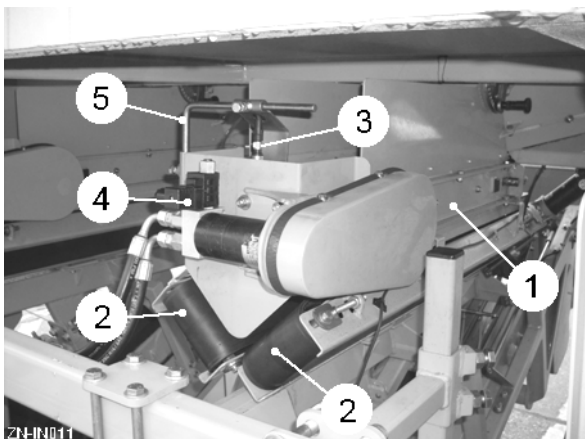
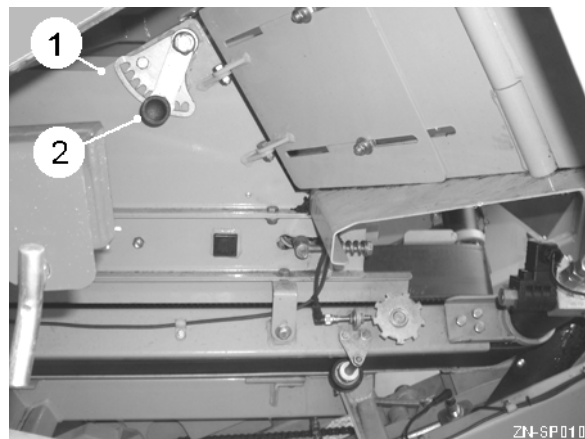
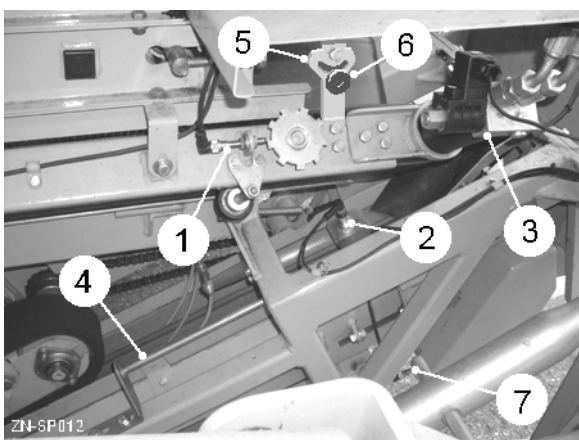
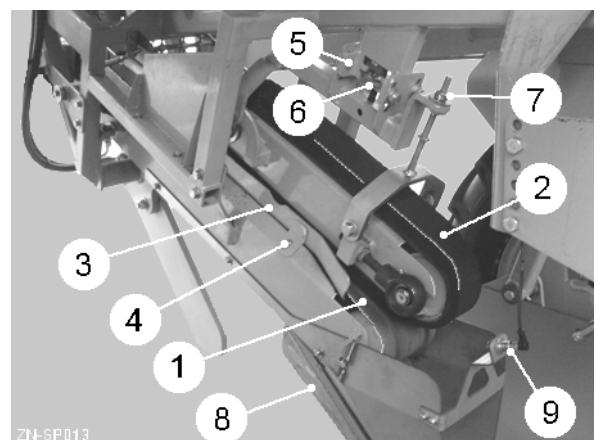

Fig 10
Fig 11
Fig 12
Fig 13
The hopper belt (item 1, fig 10) conveys the seed potatoes from the hopper to the singulating belts (item 2, fig 10). The regulator plate (item 1, fig 11) should be set to keep a single layer of seed covering the hopper belt. Lowering the regulator plate too much could result in 'bridging' and may cause a blockage. To adjust pull out the knob (item 2, fig 11) and relocate the knob plunger into a different slot in the index plate.
The sensor (item 3, fig 10), via the motor ON/OFF valve (item 4, fig 10), controls the amount of seed deposited onto the singulating belts (item 2, fig 10). The amount should be sufficient to create a continuous, single line of potatoes on the singulating belts. To achieve this, raise / lower the sensor arm (item 5, fig 10). Moving the sensor down closer to the singulating belts will cause the hopper belt to stop sooner thus reducing the seed quantity.
The singulating belts (item 2, fig 10) consist of one fast belt and one slow belt arranged in a V-format. The action of the fast and slow belts sorts the potatoes into a continuous, single line before feeding them onto the trough belt. The belts on the RH unit are each fitted with a proximity sensor (item 1, fig 12) which monitors their speed.
The sensor (item 2, fig 12), via the motor ON/OFF valves (item 3, fig 12), controls the flow of seed. A continuous, single line of potatoes should be presented to the trough belt. To achieve this the sensor can be adjusted for position and range.
To adjust the position, loosen the clamp bolt and slide the sensor along the support bar (item 4, fig 12). The sensor should be positioned to allow a row of seed to build up in front of the seed placement belt.
The rubber curtain (item 5, fig 12) is designed to restrict the flow of singulated seed to the trough belt. The curtain is raised / lowered by loosening the locking knob (item 6, fig 12) and rotating the curtain mounting. Do not restrict the flow too much as this can result in misses when planting.
The trough belt (item 1, fig 13) and seed placement belt (item 2, fig 13) work together to deliver the row of seed potatoes to the openers. The sensor (item 7, fig 12) monitors the speed of the belts which, along with the forward speed of the planter, ensures even spacing of the seed in the ground.
The sides of the trough belt are angled upwards by the extension panels (item 3, fig 13) creating a trough that keeps the potatoes centred. The panels are adjustable to create different width troughs depending on seed size and should be set to prevent one potato overtaking another which could result in 'doubles'. To adjust, loosen the bolts x3 (item 4, fig 13) and slide the extension panels to the required position.
The height and angle of the seed placement belt (item 2, fig 13) relative to the trough belt (item 1, fig 13) should be set to allow the pintle fingers to grip the seed. If set too low, the belt may crush the seed. Conversely, setting the belt too high will allow the seed to roll out without any control.
To adjust the height of the placement belt, loosen the mounting bolts x4 (item 5, fig 13) and turn the adjuster nut (item 6, fig 13) clockwise to raise unit or anti-clockwise to lower the unit.
The throat angle should be set to give the potatoes a lead-in. An angle of approximately 5° relative to the trough belt is usually sufficient. To adjust the angle, turn the locknuts (item 7, fig 13).
The stainless steel openers (item 8, fig 13) produce a furrow in the bed ready to accept the seed. The height of the front wear point is adjustable to produce a deeper furrow. The sensor (item 9, fig 13) detects the potatoes as they fall into the opener.